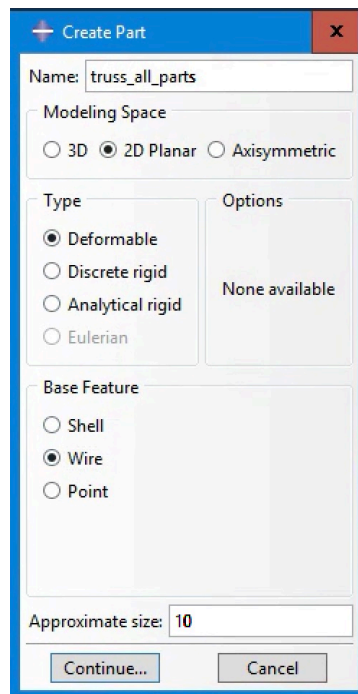

Figure 6 Creating parts
- The “Create Part” dialog box appears on the screen (Figure 6). Name the part “truss_all_parts”. Check **2D Planar** because it is a planar truss. Then, choose **Deformable** in the type and check **Wire** as the base feature. Then, enter 10 as the approximate size, which is used by Abaqus/CAE to calculate the size of the **Sketcher** sheet and the spacing of its grid. (For more information about these options see: <http://abaqus.software.polimi.it/v6.14/books/usi/pt03ch11s19.html>). Click on the **Continue** to go to the Sketcher view.